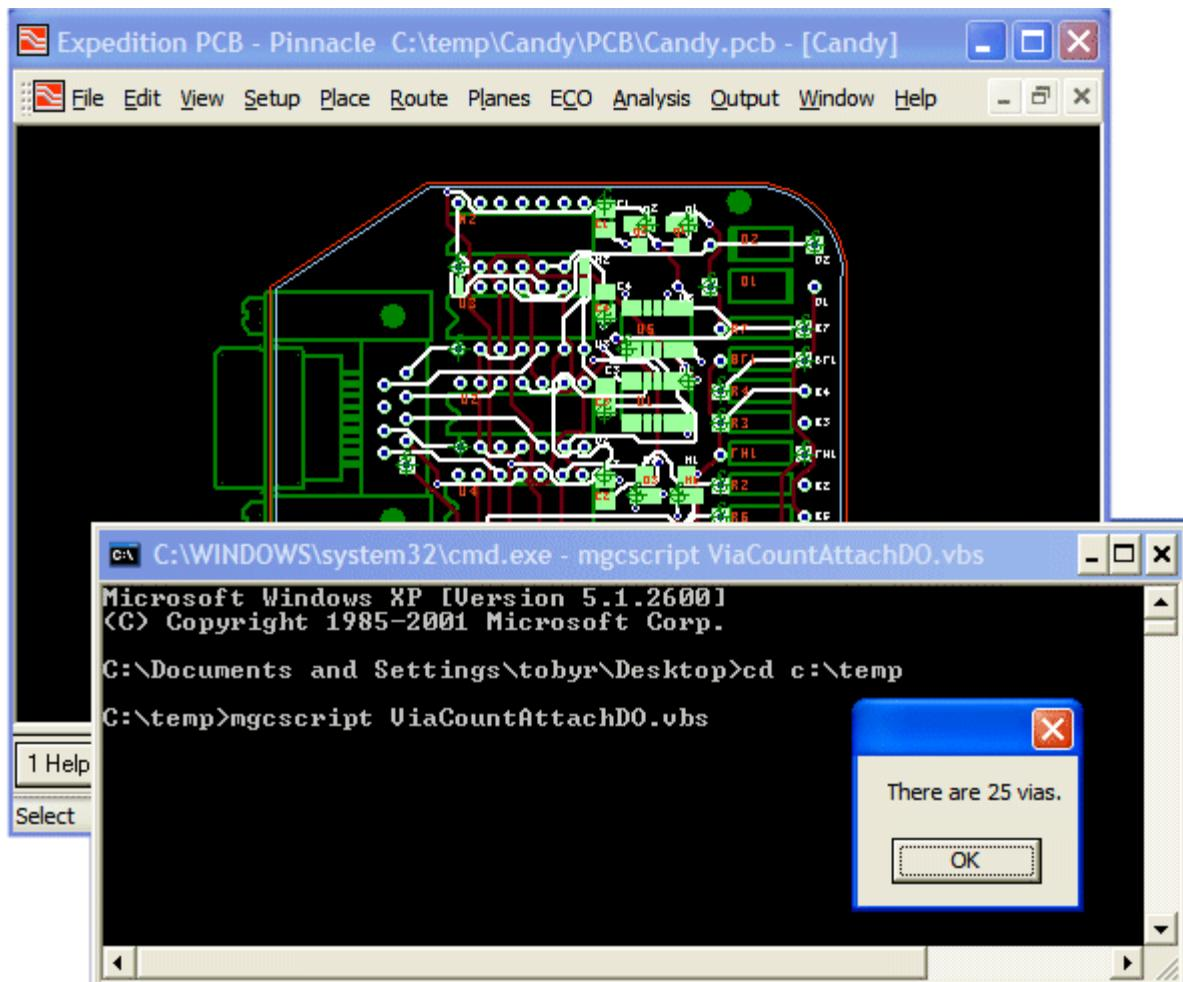

Figure 8-25. Attaching to a running application with an open document.
- 4) Run the *ViaCountAttachDO.vbs* script from the command line and observe that the script attaches to the currently running instantiation of Expedition PCB (Figure 8-25).